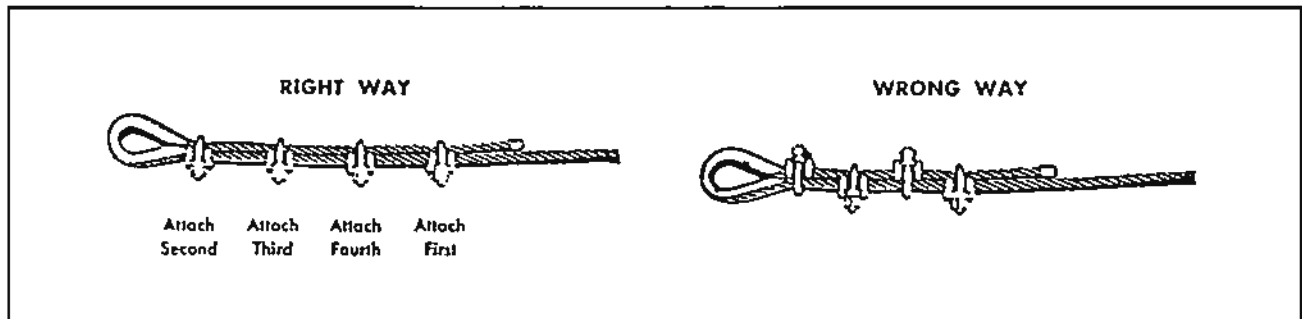

Figure 5-31. Method of attaching wire rope clips.
- 1) Turn back around the thimble the length of rope specified (Figure 5-31). Apply the first clip so the U-bolt is no less than the width of the clip saddle back placed over the dead end, and the live end of the rope rests in the saddle. Tighten both nuts evenly and torque.